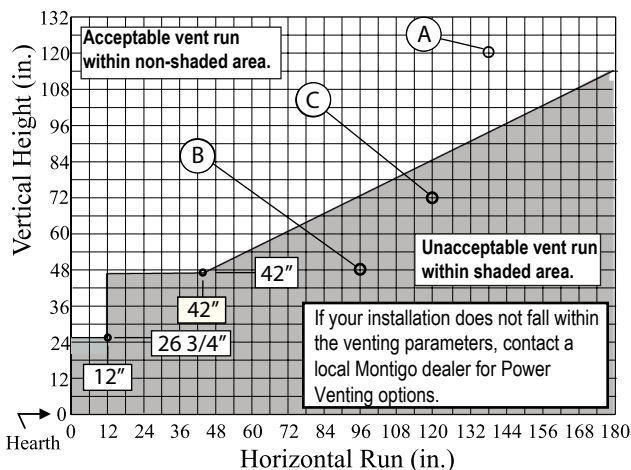

Figure 13. Side Vent Venting Graph for wall mounted terminations.
- Venting runs must fall within the limits set by the venting graphs, see Figure 13.
Measure the vertical height from the fireplace hearth to the centre of the termination and the horizontal run from the fireplace flue collar to the wall flange of the termination. Plot on the Venting Graph Figure 13 with an 'X'.
Figure 13b. Side Vented, wall mounted Multi-elbow termination installation. Installation for L38DF\*-ST must have a minimum vertical rise of 42". The vent run must comply with the Venting Graph for Rear vent, wall mounted terminations, Figure 13.